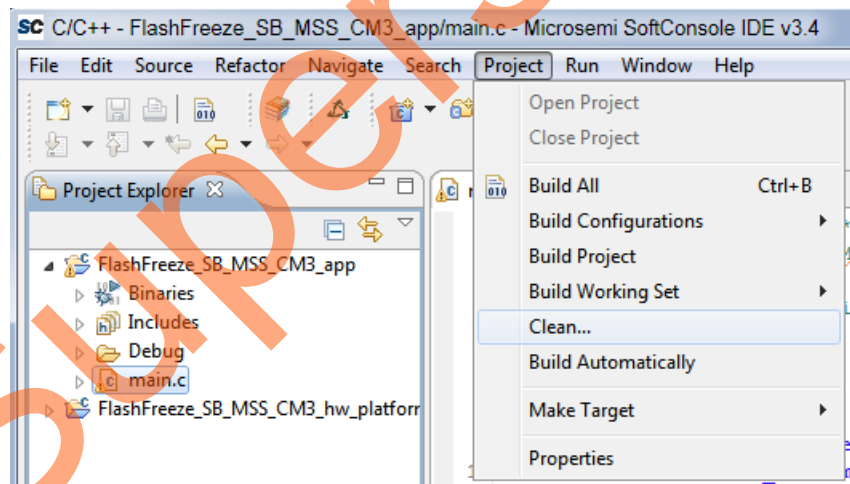

Figure 13 • Clean Project Build
9. Select **Project > Clean** to perform a clean build as shown in Figure 13.